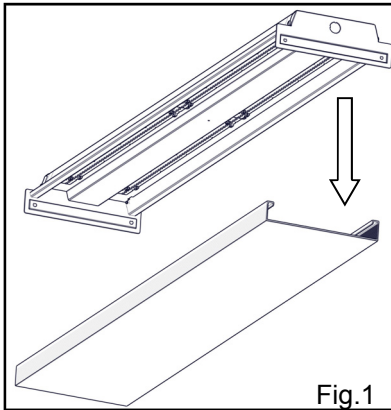

Fig.1
3. Remove lens from luminaire Fig.1.